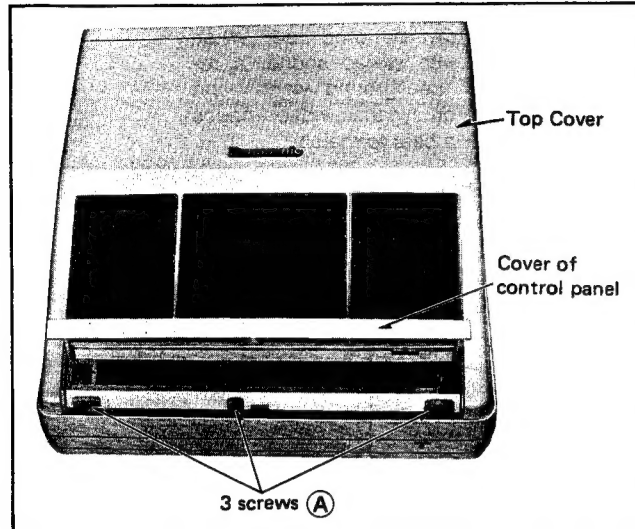

Fig. 2
- 2) Remove 3 screws (A) in fig. 2.